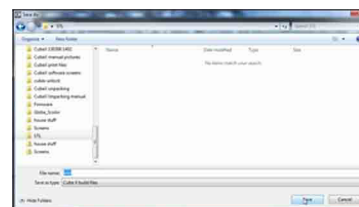

Fig. 86
2. Your file can be saved on the USB stick or your computer. Choose the location you wish to save the .cubex file, give it a suitable name and click "Save." Transfer the .cubex file to your USB stick for printing or save it on your USB stick. (Fig. 86)